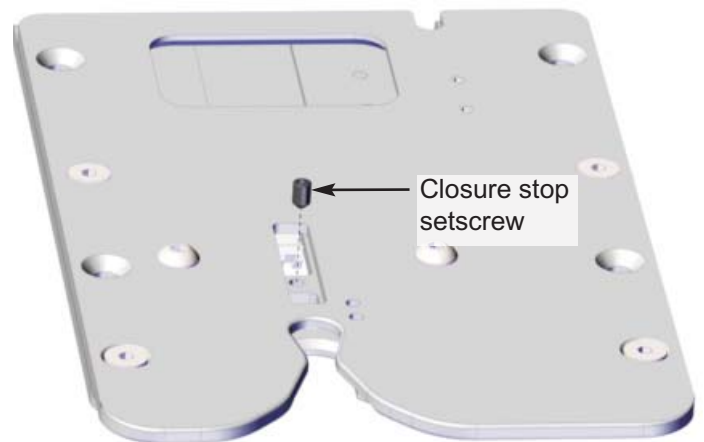

Figure 3.5
F. CLOSURE STOP SET SCREW ADJUSTMENT: Figure 3.5 and 3.6